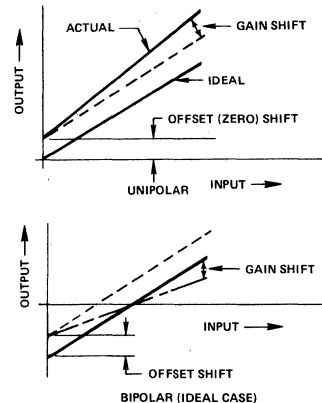

Figure 6. Unipolar and Bipolar Drifts
Temperature error analysis in the unipolar mode is straightforward: there is an offset drift and a gain drift. The offset drift of $3\text{ppm}/^\circ\text{C}$ max (which comes from leakage currents and drift in the output amplifier (OA)) causes a linear shift in the transfer curve as shown in Figure 6. The gain drift causes a change in the slope of the curve and results from reference drift, DAC drift, and drift in R_{GAIN} relative to the DAC resistors for a total of $30\text{ppm}/^\circ\text{C}$ max. Total absolute error due to all of these effects is guaranteed to be less than $\pm 0.15\%$ of full scale from 0 to $+70^\circ\text{C}$.
Note that if the DAC and application resistors track perfectly, the bipolar offset drift will be zero even if the reference drifts. A change in the reference voltage, which causes a shift in the bipolar offset, will also cause an equivalent change in I_{REF} and thus I_{DAC} , so that I_{DAC} will always be exactly balanced by I_{BP} with the MSB turned on. This effect is shown in Figure 6. The net effect of the reference drift then is simply to cause a rotation in the transfer around bipolar zero. However, consideration of second order effects (which are often overlooked) reveals the errors in the bipolar mode. The unipolar offset drifts discussed before will have the same effect on the bipolar offset. A mismatch of R_{BP} to the DAC resistors is usually the largest component of bipolar drift, but in the AD DAC80 this error is held to $10\text{ppm}/^\circ\text{C}$ max. Gain drift in the DAC also contributes to bipolar offset drift, as well as full scale drift, but again is held to $7\text{ppm}/^\circ\text{C}$ max. The total of all these errors is held to $\pm 0.1\%$ of full scale from 0 to $+70^\circ\text{C}$. Note that, in the bipolar ranges, full scale is defined as the total range from $-V_{\text{FS}}$ to $+V_{\text{FS}}$.